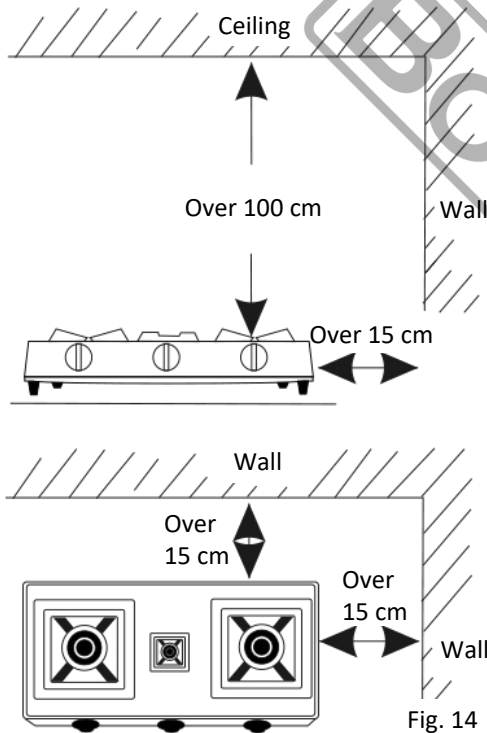

Fig. 14
8. When choosing a place to put the gas cooker, be sure to pick a spot that is firm and level. The gas cooker need plenty of space and air. Allow at least 15cm of space on the sides and 100cm above the unit. (Fig.14) if the space is less than 15cm from the in-flammable walls, be sure to provide a heat insulation board. Also be sure to keep paper, oil, and all other inflammable objects away from the gas cooker.